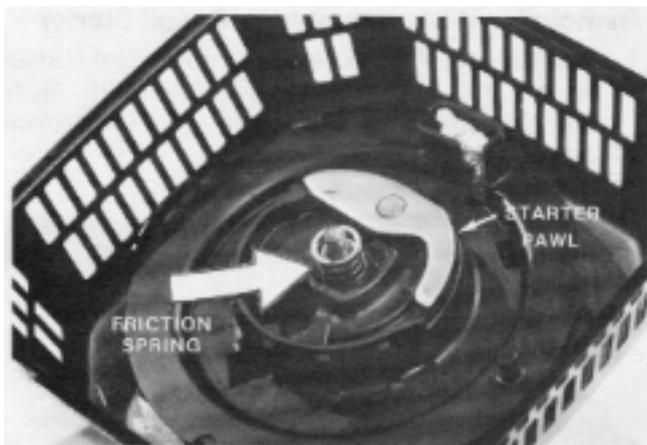

Figure 3-32
3. Unscrew the two mounting screws as shown in Fig. 3-32.
- The friction spring is directly underneath the starter pawl guide. The starter pawl is also visible. See Fig. 3-32. Remove the friction spring.
3. Install the friction spring and pawl guide. See Figs. 3-32, 3-31.